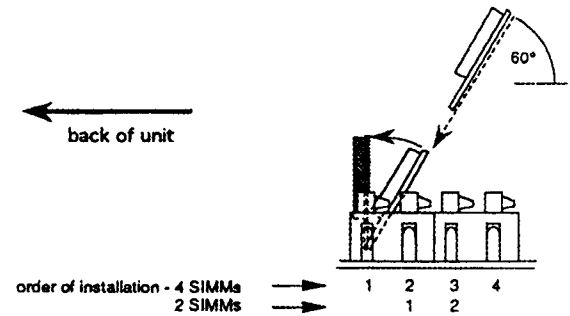

Figure 2.7 - SIMM installation
4. Insert a SIMM into the proper socket at a 60 angle (Figure 2.7).